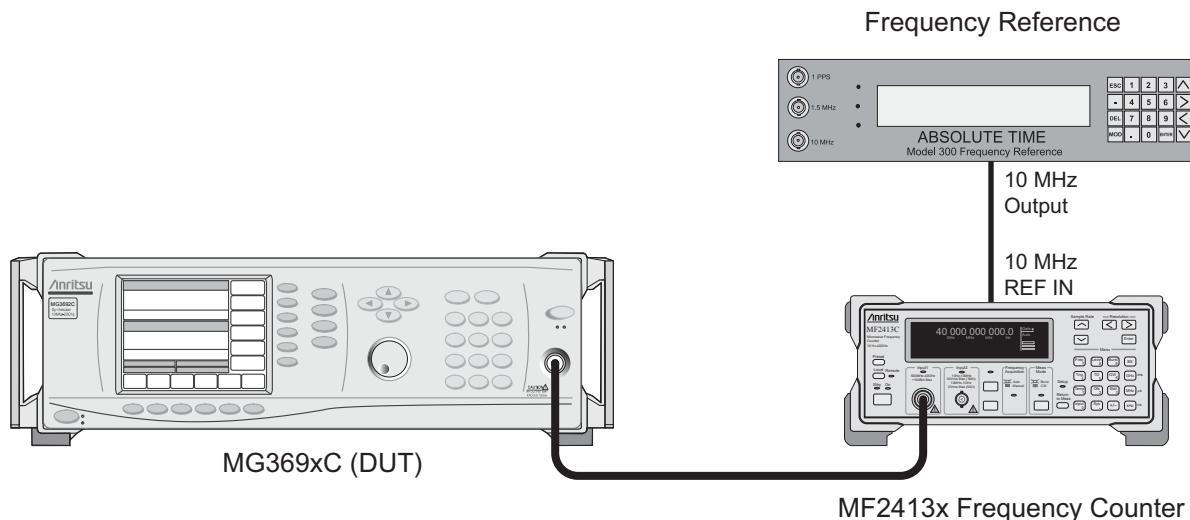

Figure 5-3. Equipment Setup for 10 MHz Reference Oscillator Calibration
- Connect the equipment as shown in Figure 5-3.
- a. Connect the equipment as shown in Figure 5-3.